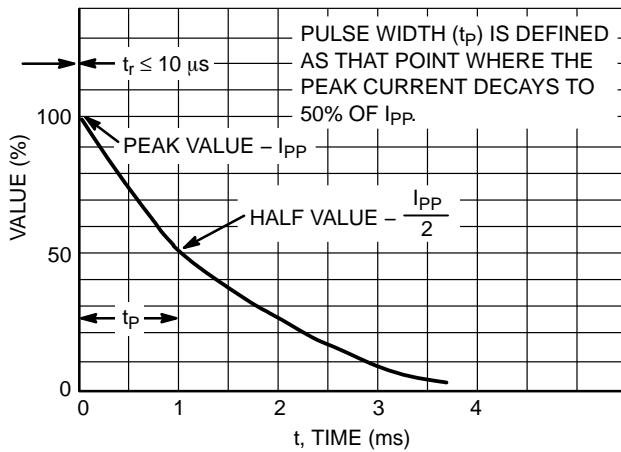
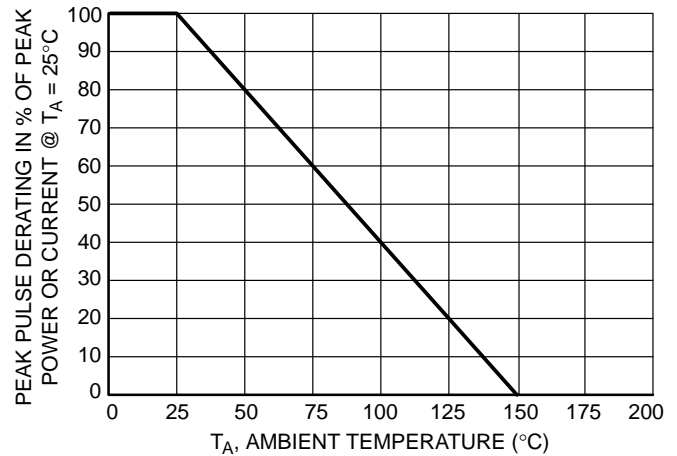

Figure 6. Pulse Waveform
Figure 7. Pulse Derating Curve
1. Non-repetitive current pulse per Figure 6 and derate above $T_A = 25^\circ\text{C}$ per Figure 7.
6. Surge current waveform per Figure 6 and derate per Figure 7